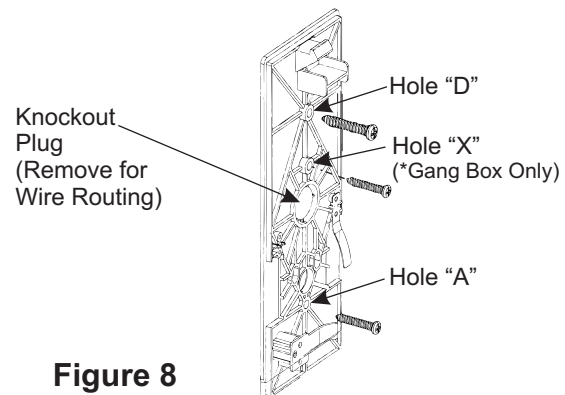

Figure 8
- 1c. Wall Mounting to a single "Gang Box". Attach the Mounting Base through holes "A" and "X", using standard gang box screws as shown in Figure 8 (Gang Box screws not provided).